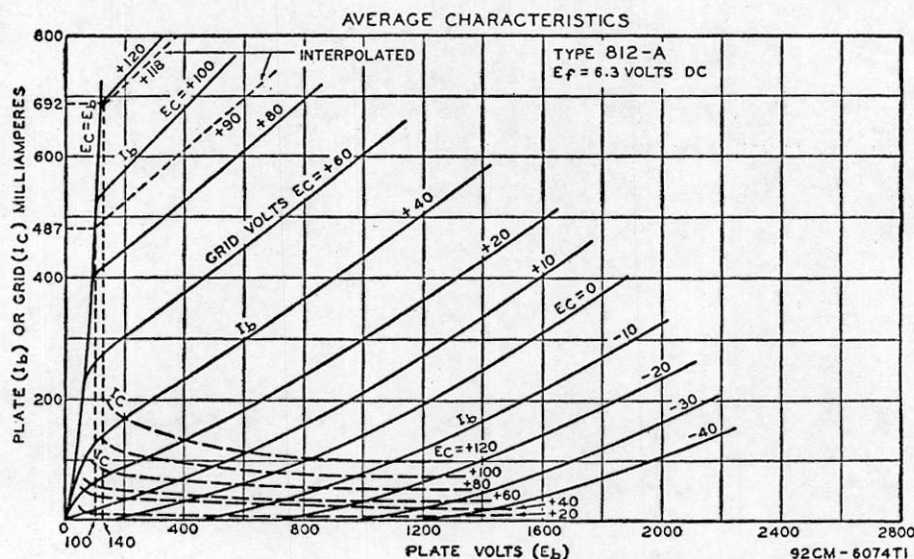

Fig. 45
(1) From the published data for the 812-A, the maximum plate-input rating is 260 watts. The dc plate current ( $I_b$ ) required to provide this input at a plate voltage, ( $E_b$ ) of 1500 volts is  $I_b = 260/1500 = 0.173$  ampere, or 173 milliamperes.
(2) From Table I,  $K_1$  for a conduction angle of 140 degrees is 4. Therefore, peak plate current ( $i_{bmax}$ ) =  $0.173 \times 4.00 = 0.692$  ampere, or 692 milliamperes.
(3) The average characteristics curves given in Fig. 45 show that a peak plate current of 692 milliamperes is obtained at a peak positive grid voltage ( $e_{cmax}$ ) of 118 volts and an effective minimum plate voltage ( $e_{bmin}$ ) of 140 volts.
(4) From Table I,  $K_2$  for a conduction angle of 140 degrees is 0.862. Therefore, power output ( $P_o$ ) =  $0.862 \times (1500 - 140) \times 0.173 = 203$  watts (approx.).
(5) Plate dissipation ( $P_p$ ) =  $(1500 \times 0.173) - 203 = 57$  watts (approx.)
(6) From Table I,  $K_3$  is 0.520. From the published data, the amplification factor  $\mu$  is 29. Therefore, the dc grid voltage or bias ( $E_c$ ) =  $-[0.520 \times (118 + 140/29) + 1500/29] = -[0.520 \times (118 + 4.8) + 52] = -(64 + 52) = -116$  volts.
(7) Peak rf grid voltage ( $E_g$ ) =  $-(-116) + 118 = 234$  volts.
(8) From the average characteristics curves shown in Fig. 45, for  $e_{cmax}$  of +118 volts and  $e_{bmin}$  of 140 volts, peak grid current ( $i_{cmax}$ ) = 195 milliamperes (approx.).